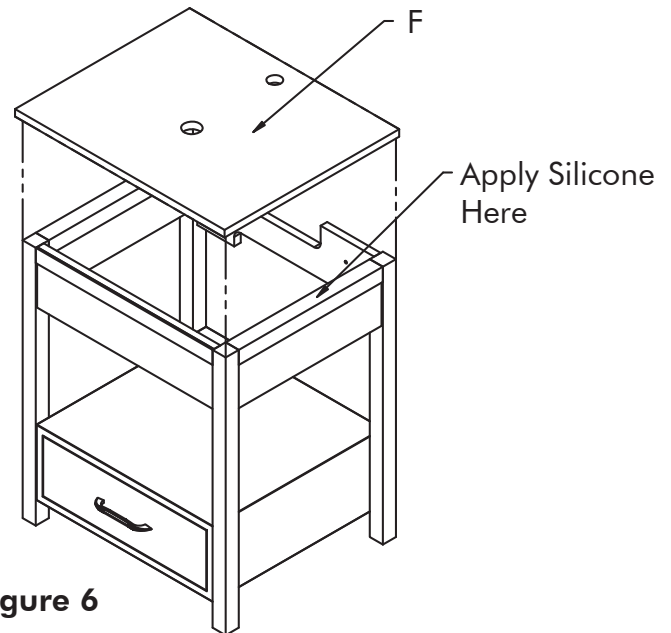

Figure 6
- Apply silicone to top of console assembly and place the **Granite Countertop (F)** carefully in position.
- Align **Granite Countertop (F)** to console assembly and wipe off excess silicone if needed.
- Refer to figure 6.